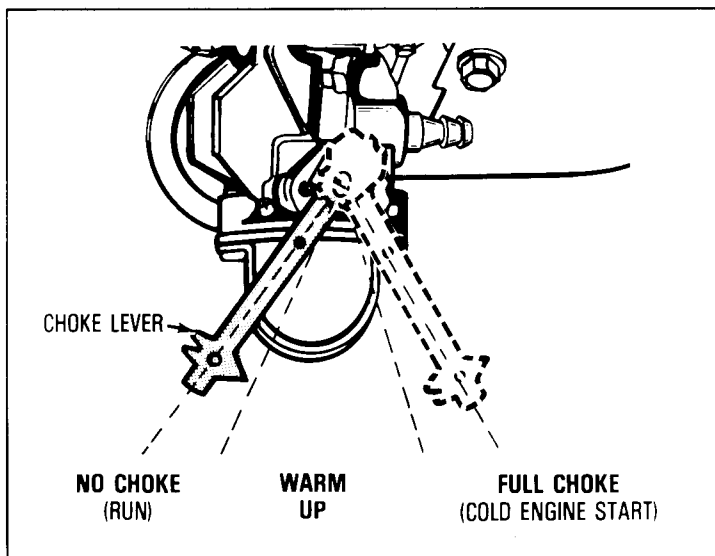

Figure 3
NOTE: If engine is remotely controlled, see equipment manufacturer's instructions for control positions which correspond to engine control positions in Figure 3.
① RECOIL STARTER:
- A. Move choke lever on engine or equipment (see Figure 3) to "FULL CHOKE".
② ELECTRIC STARTER 120 VOLT A.C.: